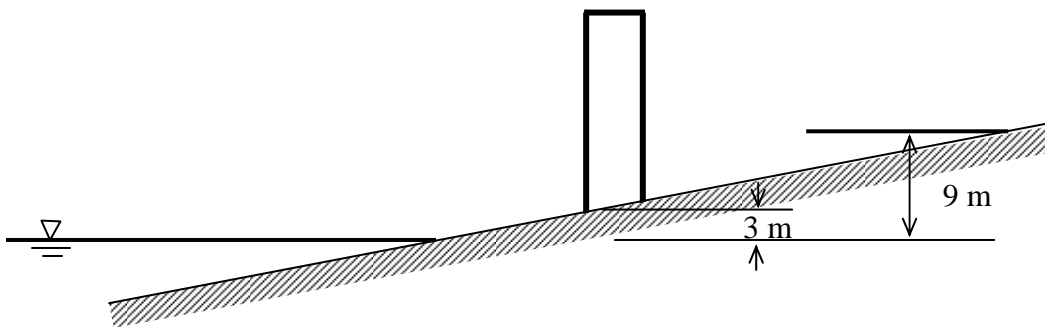
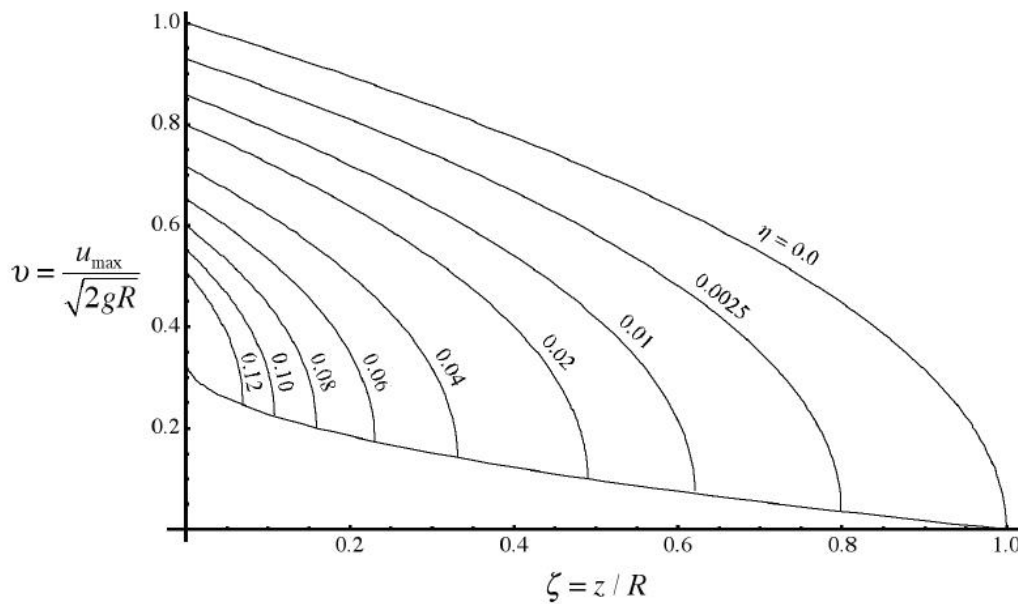

Figure 3
Figure 4
b) A rectangular-shaped building is constructed at 300 m from the shoreline of Batu Ferringgi, Penang. The building is located at 3 m above the mean sea level. It has 15 m wide facing the beach with a slope 1/100. The tsunami inundation map indicates the maximum run-up height of 9 m at the location of 600 m from the shoreline as shown in Figure 3. Use the chart of Figure 4 to determine the maximum flow velocity of depth, d , at the ground elevation, z and maximum run-up elevation, R . Then calculate